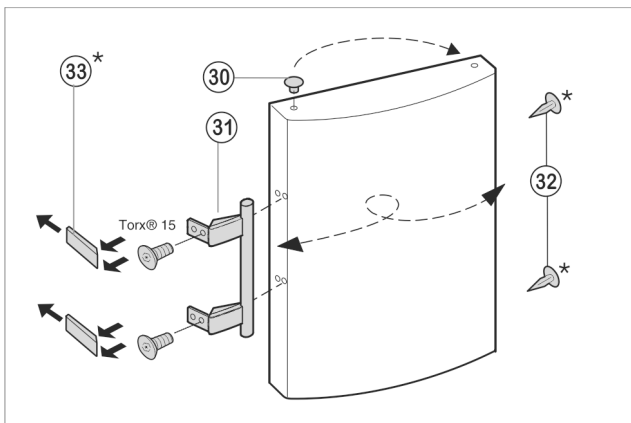

Fig. 8
- Lift the stopper *Fig. 8 (30)* out of the door bearing bush and transfer it.
- Detach door handle *Fig. 8 (31)*, stoppers *Fig. 8 (32)* and pressure plates *Fig. 8 (33)* plates and transfer to the opposite side